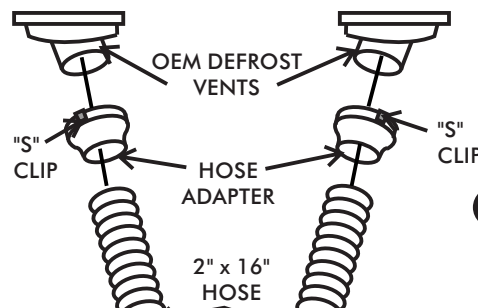

FIGURE 11a
- ❑ ATTACH DEFROST HOSE ADAPTERS TO OEM DEFROST VENTS BY PRESSING FIRMLY OVER "S"-CLIPS. SEE FIGURE 11a.
- ❑ ATTACH A 2" x 16" DEFROSTER DUCT HOSE TO EACH EVAPORATOR OUTLET AND DEFROST HOSE ADAPTER. SEE FIGURE 11a, BELOW.